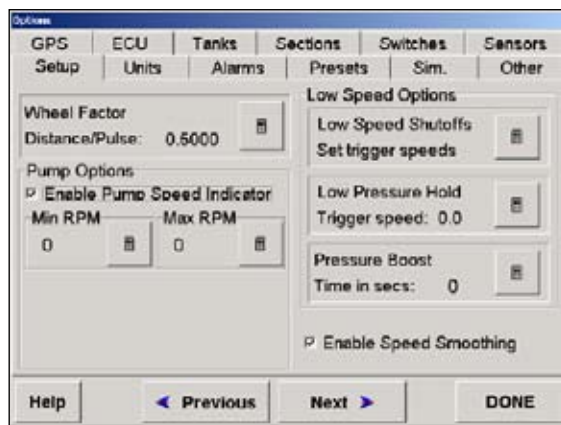

Figure 8-16. Options>Setup Page
1. Select the **calculator** icon in the *Wheel Factor* window (Figure 8-16).
3. Press **ENTER** to save changes and return to the **Setup** page (Figure 8-16 on page 8-46).
Selecting the **calculator** icon in the *Low Speed Shutoffs* window (Figure 8-16 on page 8-46) opens the *Low Speed Shutoffs* screen.
Select the **calculator** icon in the ***Low Pressure Hold*** window (Figure 8-16 on page 8-46) to enter the value (in kph). Select **Enter** to save the value you entered and close the window.
Select the **calculator** icon in the ***Pressure Boost*** window (Figure 8-16 on page 8-46) and enter the value (normally 2-3 seconds).
Select **Enable Pump Speed Indicator** (Figure 8-16 on page 8-46) when a speed sensor is fitted to the pump to readout the RPM of the pump shaft.